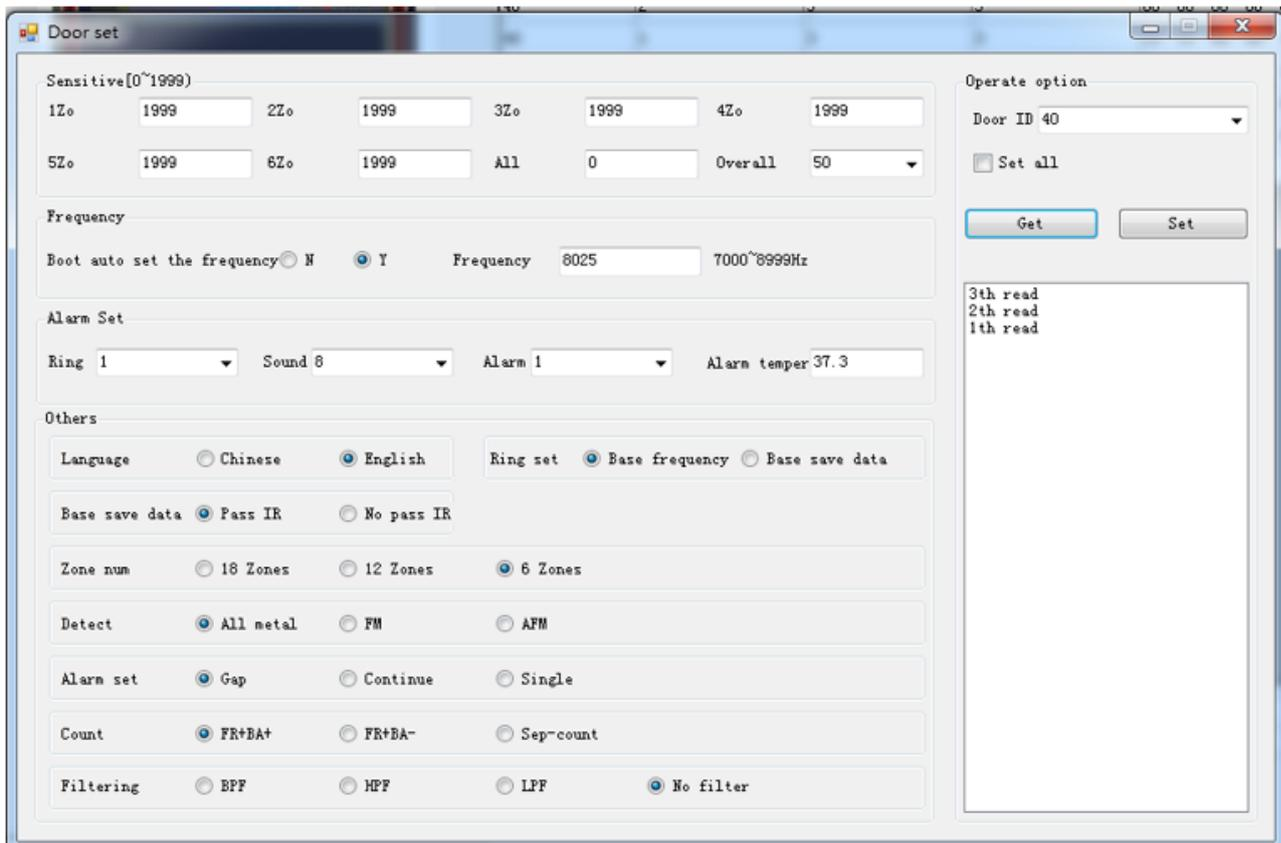

Figure 13
After the security door is connected successfully, click the setting item on the left of the menu bar in the main interface of the software and select "Door set" to enter the security door setting interface, as shown in Figure 13.
- a. To obtain the parameter information of the connected walk through metal detector, you need to select the ID number of walk through metal detector in the list on the left side of Set interface, then return to Com interface and click Get. The parameter information of the walk through metal detector of the selected ID is displayed on the interface shown in Figure 13.
*Note: The functions of the interface in Figure 13 show all the function parameters of the walk through metal detectors of the company. The functions of different models walk through metal detectors are different, referred to the user manual. If the setting is out of range, it will be invalid.*